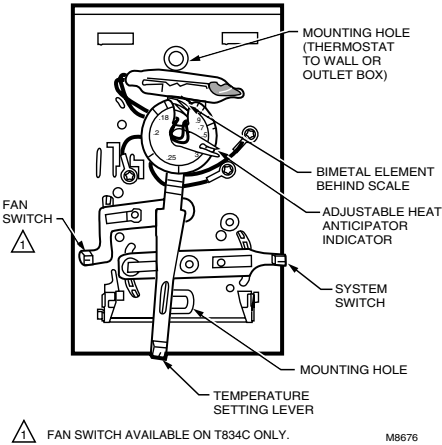

Fig. 2. Internal view of T834.
4. Remove thermostat cover by pulling outward on bottom edge of the cover until it snaps free of the thermostat base. See Fig. 2. Carefully remove and discard the foam plastic shipping insert that protects the switch and bimetal assembly during shipping.